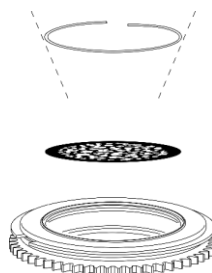

Fig. 17
- 10) Carefully insert the retainer spring with the narrow end against the gobo (see Fig. 17). To identify the narrow end, press the spring flat: the narrow end is on the inside.